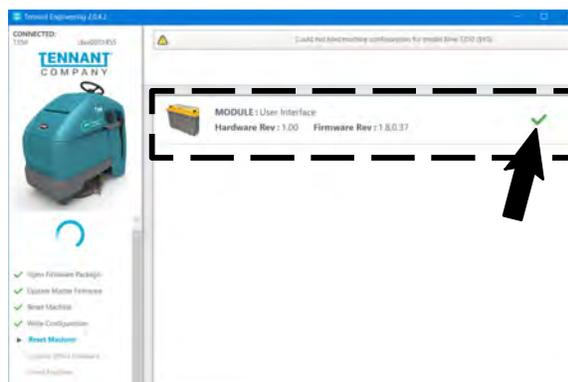

FIG. 27
12. A check appears where the process status indicator with the percent status was previously located when the firmware update is complete. (Fig. 27)